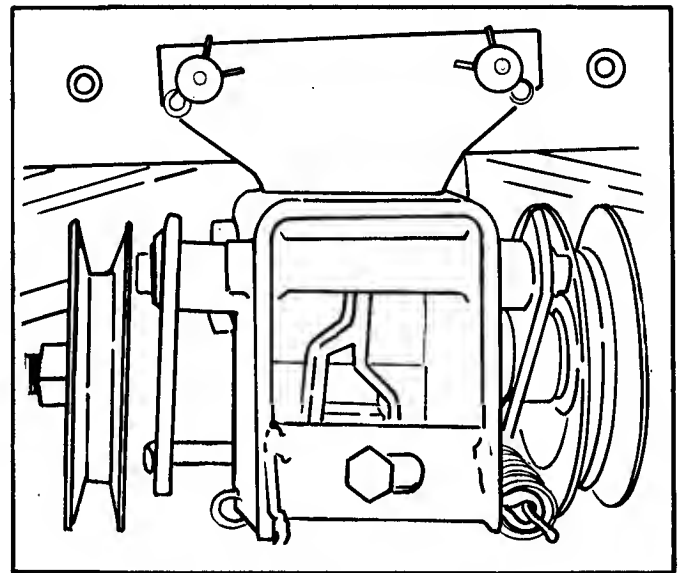

FIG. 2.10 — MOWER "MULE" DRIVE
1. Remove mower drive idler at front of tractor. Fig. 2.10.